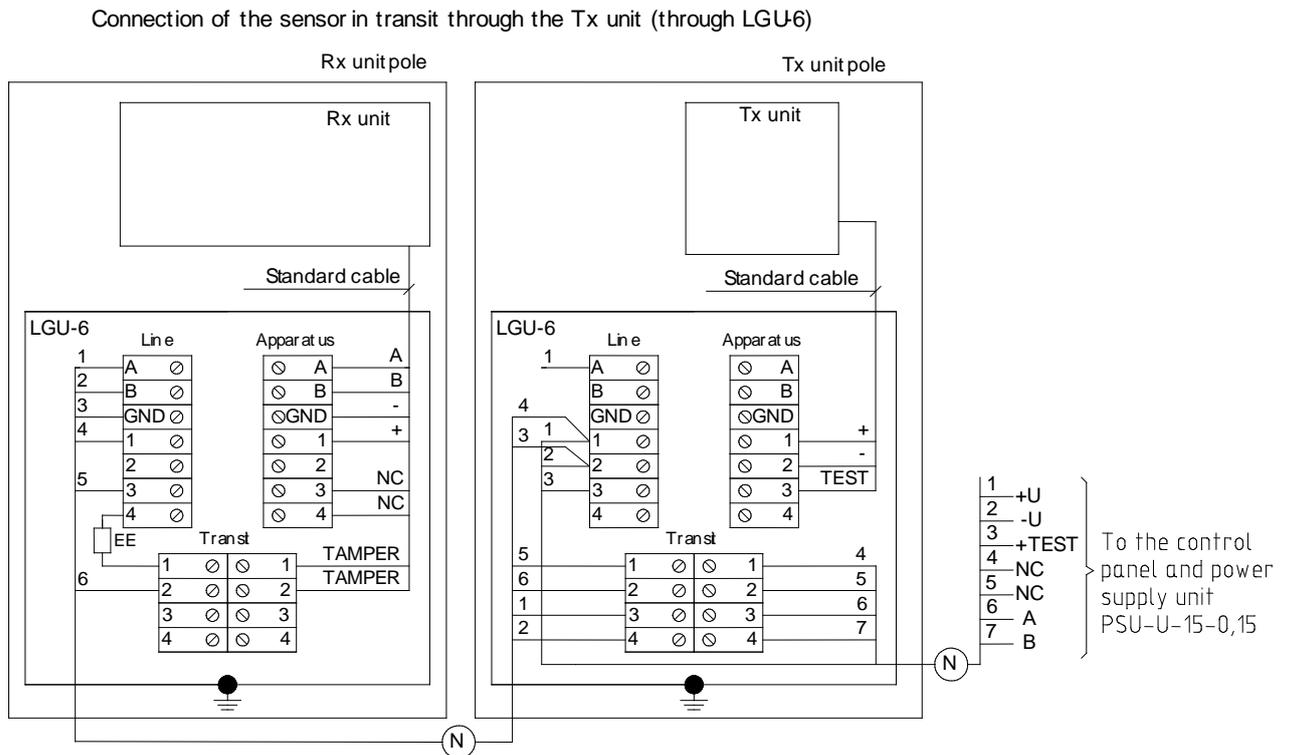

Figure 2.11 – Diagram of connection the sensor using the external lightning guard unit LGU-6.
- 2.3.7.6 The diagram of connection the sensor using the external lightning guard unit LGU-6 is given in Figure 2.11. Install the external lightning guard unit LGU-6 close to sensor Rx unit (Tx unit). Optimal location – instead of junction box (if the number of commutated circuits does not exceed 8).